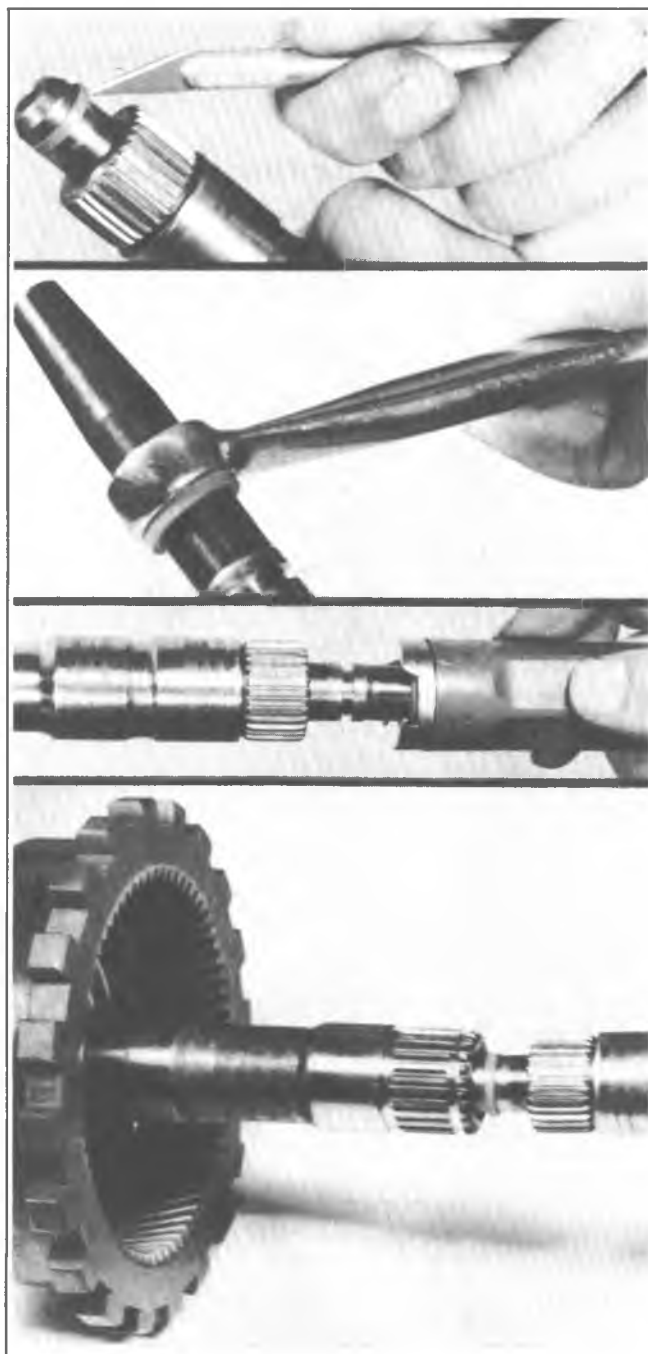

Fig. 7A-87B--Input Shaft, Teflon Seal Replacement
- Inspect the input shaft teflon seal ring for damage. See Figure 7A-87B. If the seal is cut or otherwise damaged, it must be replaced. Some scoring and/or scuffing of the shaft is normal. Remove seal with a sharp pointed knife by inserting under the seal and cutting, making sure not to damage the seal land area. Install new seal using J-22974 and J-9392-01. Position J-22974 with large open end on top of input shaft chamfer. Slide teflon seal partially down tool taper by hand. Position J-9392-01 or 9/16" box end wrench